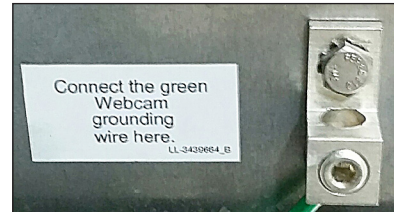

Figure 26: Webcam Ground Lug
14. Secure the green webcam grounding wire to the grounding lug near the end of the display back. Refer to **Figure 26**.